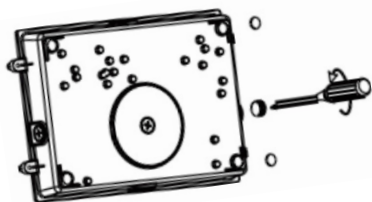

Fig. 14
7. Remove threaded plug and attach foam gasket between fixture and wall. (Fig. 14)